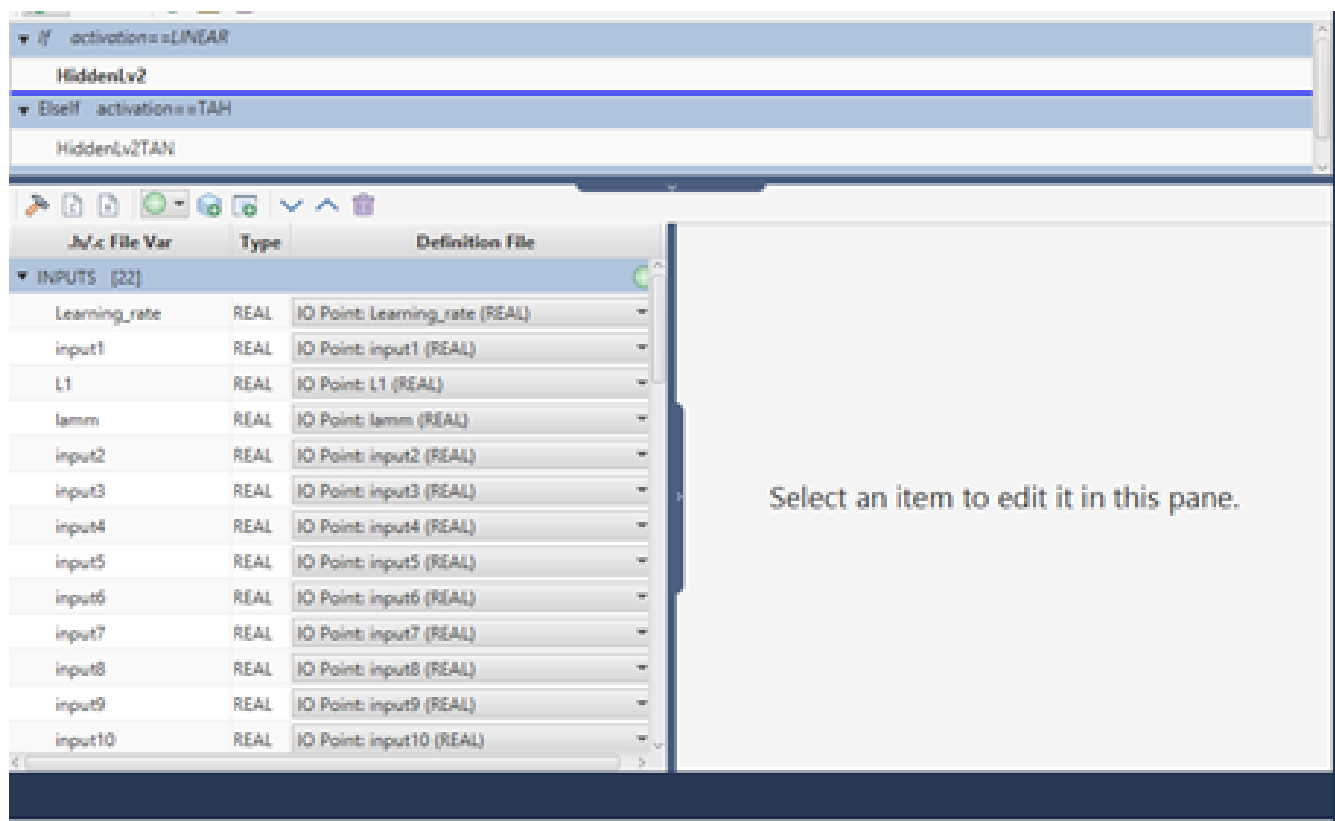

Figure 4.2: Compile codes in RSCAD.
4. Open C File Associations and select and compile the codes as depicted in Fig. 4.2.